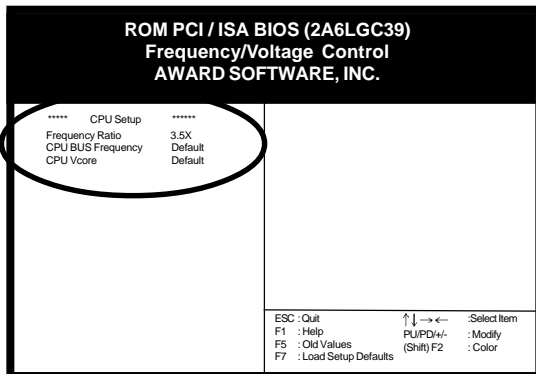

Figure 2-2
2. Move the cursor to Frequency/Voltage Control Setup menu and press Enter. Find the CPU Setup commands at the right hand side of the BIOS screen (Figure 2-2) Commands for operating the cursor in BIOS are found at the Bottom right of the BIOS screen.